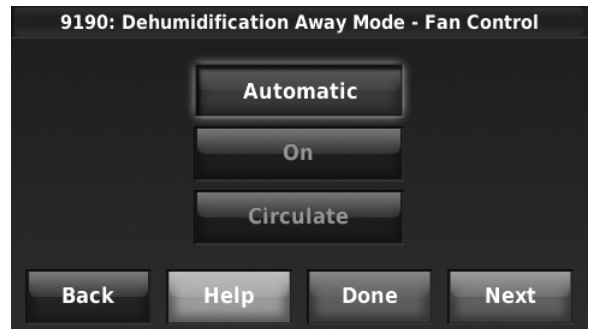

Fig. 128.
- Set Fan Control settings. See Fig. 128.